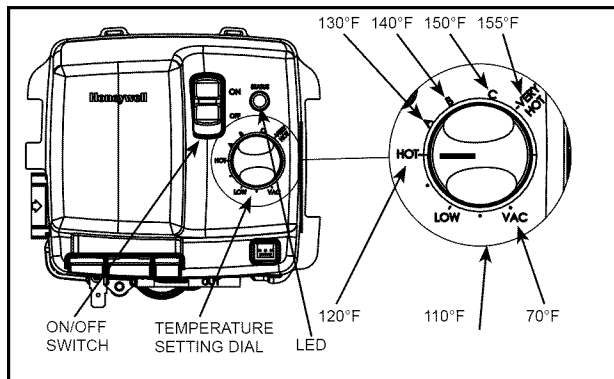

Figure 47
The gas control valve/thermostat (see Figure 1, item 5) controls and monitors the operation and safety functions of this water heater. Located on the front of this control is the ON/OFF switch, the temperature setting dial and the LED indicator light (see Figure 47). When energized, this light displays a sequence of flashes that indicates the operational status of the water heater. If there is a system safety shutdown, the LED indicator will present a flash code to alert the problem. See “System Status And Error Codes” and “Reading The LED Flash Sequence”.
This water heater is equipped with an adjustable thermostat to control water temperature (see Figure 47). Hot water temperatures required for automatic
The thermostat settings on the gas control valve are shown in Figure 47.
1. Turn the thermostat on the gas control to the lowest setting. If the heater is running, wait for it to shut down (see Figure 47).
1. Set the gas control valve/thermostat to its lowest setting by turning the knob counter-clockwise to the VAC point (Figure 47). If the water heater is running, wait for it to shut down.